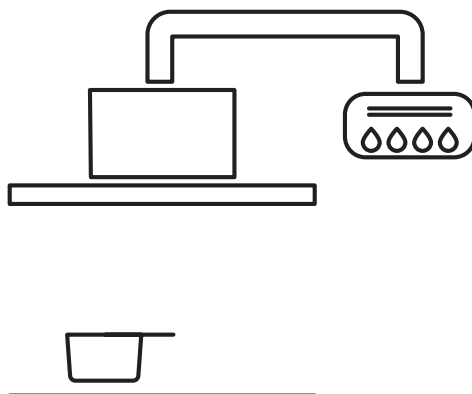

Figure 1
- The exhaust from the rangehood must not be discharged into any heating flue, which may carry combustion products from other sources. (Figure 1)